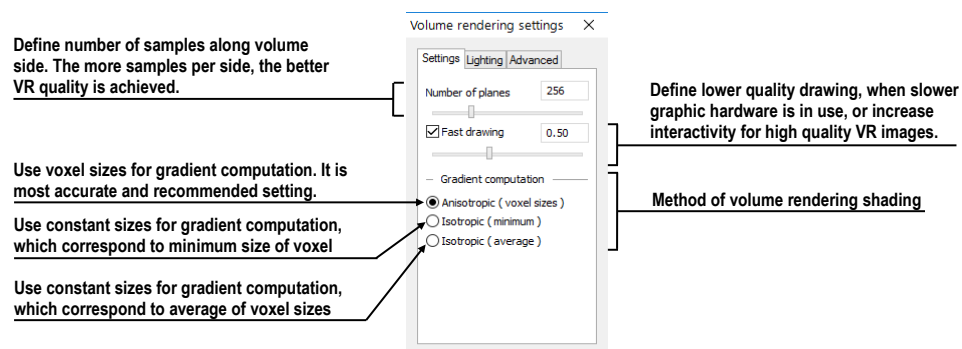

Figure 331 - Volume rendering settings, the first tab
- Basic volume rendering quality on the first tab (see Figure 331)